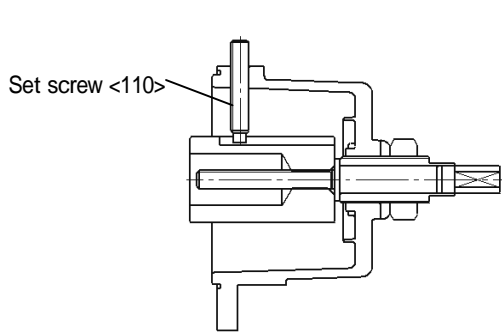

Fig.29
(6) Rotate the guide so that a guide groove may face to the hole bored through the cover of the unit for the set screw. Thread the set screw through the cover (**Fig.29**).